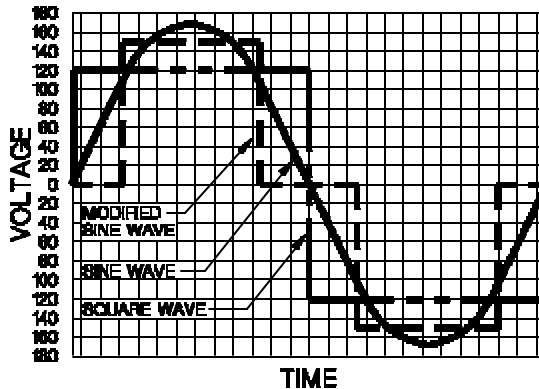

Figure 35, AC Waveforms
**Resistance** - The opposition to flow of direct current (DC)
**Sine Wave** – An AC waveform that looks like rolling waves on water. It rises and falls smoothly with time. The grid puts out a sine waveform. Any plug in AC equipment will operate from a sinewave output. This is shown in Figure 35, AC Waveforms.
**Square Wave** - The simplest AC waveform, this is shown in Figure 35, AC Waveforms. Some types of equipment behave strangely when run from a square wave.